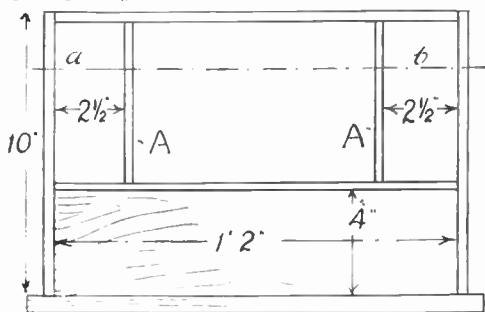
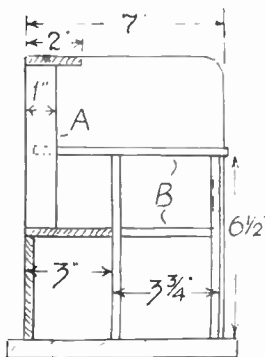

Fig. 1—Plan of the front
Fig. 2—End section
Fig. 1 is a front elevation, Fig. 2 a side section, with dimensions. For economy's sake it is, perhaps, better to use the  $\frac{3}{4}$  in. deal mentioned for the shop sides and top cross piece. Cut these to dimensions given, and round off the rear top corners. At the spots where the counter will be nailed later, square lines across as a guide, to get the counter level, and not on the skew.
Inside the shop a set of shelves should be made and set up each side. These are seen in Fig. 2, and consist of two pieces (B) fixed to a pair of vertical uprights. The width of top shelf (B) is just  $2\frac{1}{2}$  ins., so that its further end can fit between the vertical front strips. (A).
Cut the side parts, then the middle shelf to height and width in Fig. 2, and glue each side to butt up against the counter. The top shelf (B) is cut 7 ins. long, but is to be nailed on top later.